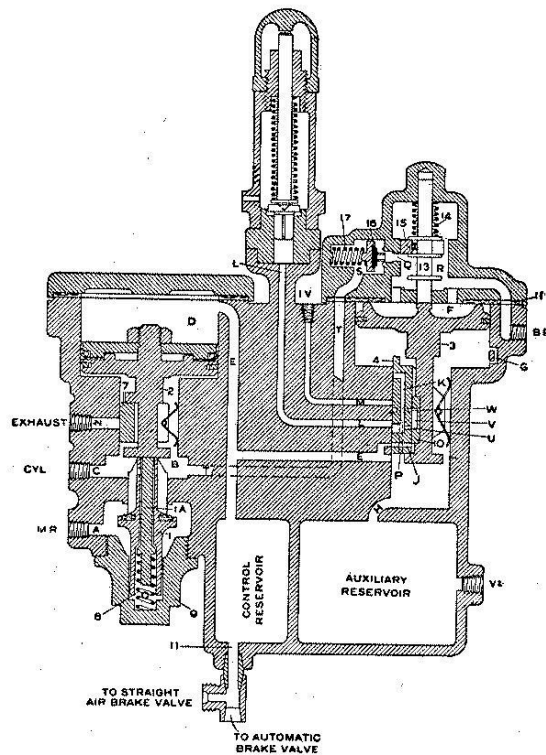

Fig. 24: Automatic Control Valve. Emergency Position. (With Quick Action Cylinder Cap.)
A. Any sudden reduction of brake pipe pressure will be felt on the brake pipe side of piston 3, and will cause it and the valve 4 to move to their extreme upper position, the knob on the piston striking the graduating stem 13, causing it to compress the spring 14, moving the emergency valve 15 upward, opening port "Q"; this allows brake pipe air to flow against valve 16, unseating it, then through port "T" to the brake cylinder. (See Fig. 24.) In the meantime auxiliary reservoir air can flow past the end of the slide valve through port "E" to the control cylinder "D" and control reservoir, forcing piston 2 downward unseating valves "I" and "IA", thus allowing main reservoir air to flow to the brake cylinders, applying the brake.